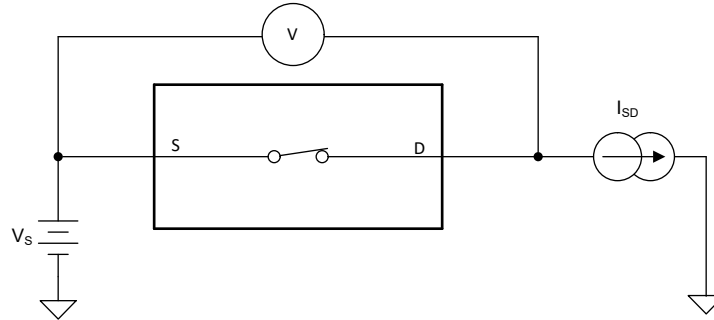

Figure 8-1. On-Resistance Measurement Setup
The on-resistance of a device is the ohmic resistance between the source (Sx) and drain (Dx) pins of the device. The on-resistance varies with input voltage and supply voltage. The symbol  $R_{ON}$  is used to denote on-resistance. Figure 8-1 shows the measurement setup used to measure  $R_{ON}$ . Voltage (V) and current ( $I_{SD}$ ) are measured using this setup, and  $R_{ON}$  is computed with  $R_{ON} = V / I_{SD}$ .